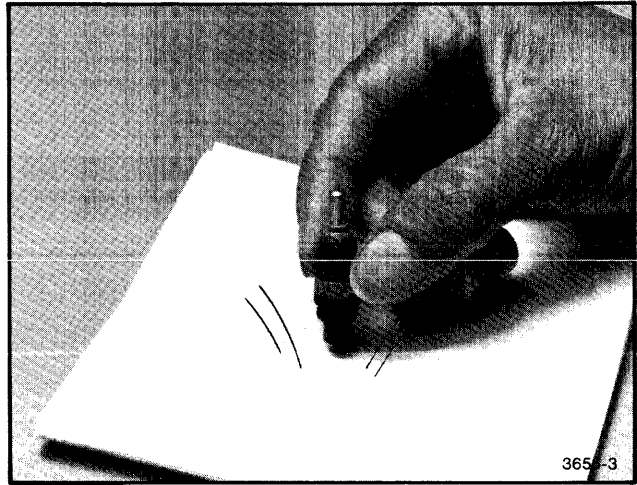

Figure E-2. Removing Excess Ink From the 4662 Pen Body.
3. Tap the rear portion of the pen body lightly on absorbant paper to remove excess ink (see Figure E-2).